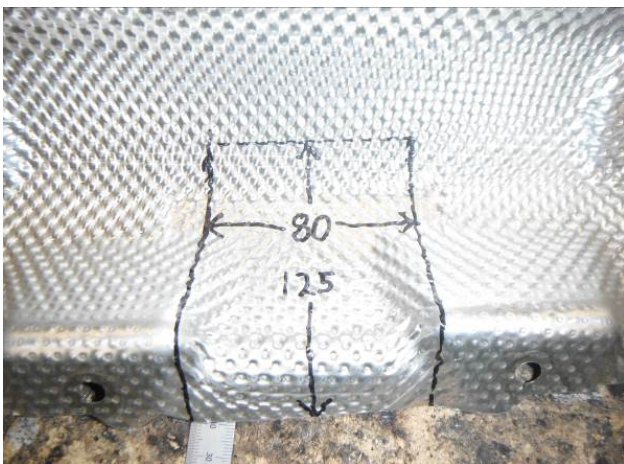

Figure 1
14. Cut out centre section of heat shield 80mm wide x125mm in height as shown in Figure 1.